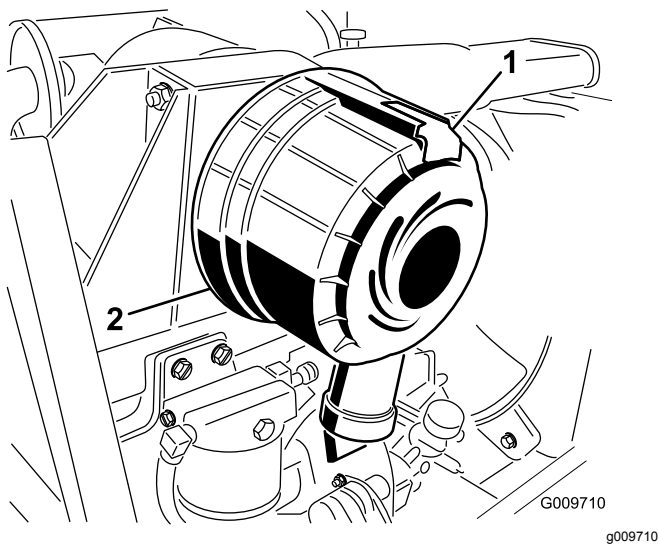

Figure 27
1. Pull the latch outward and rotate the air cleaner cover counterclockwise (Figure 27).